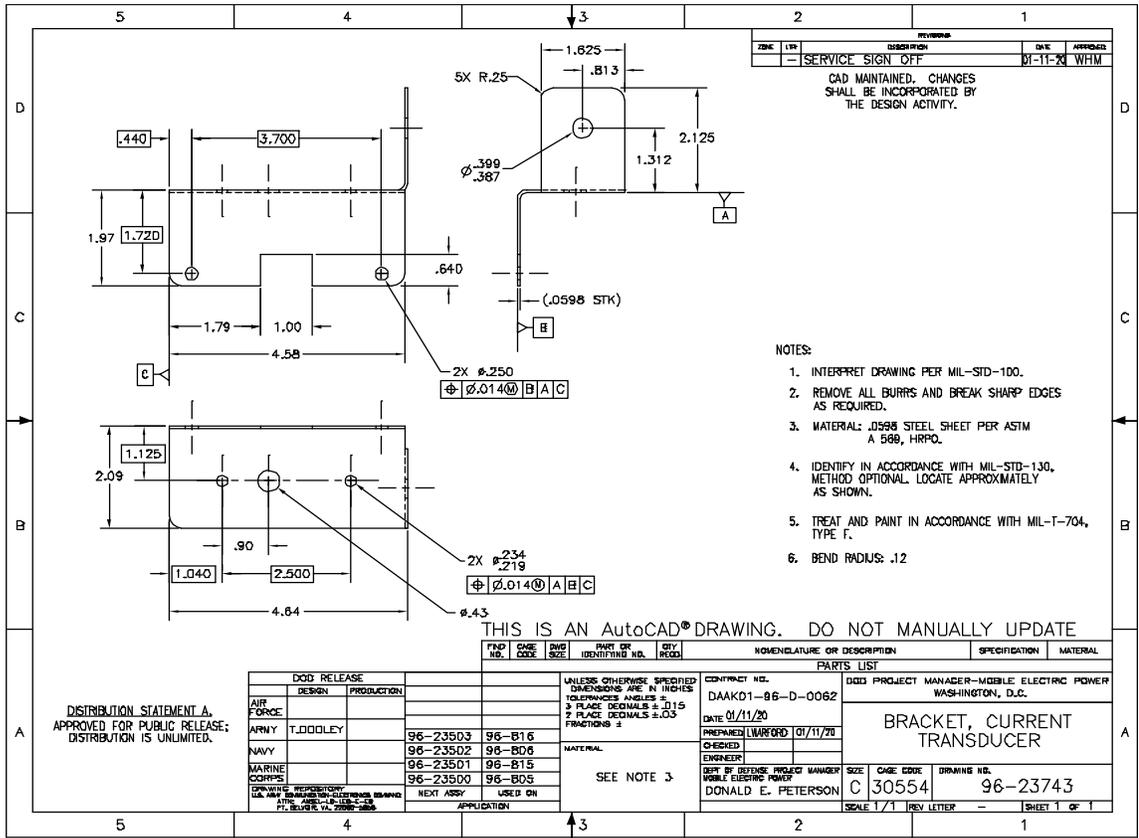

Figure 7. Current Transducer Bracket Drawing
5. Using the Bracket Drawing in Figure 7, fabricate the new bracket. Install the battery charging current transformer, in the same orientation, on the new bracket.